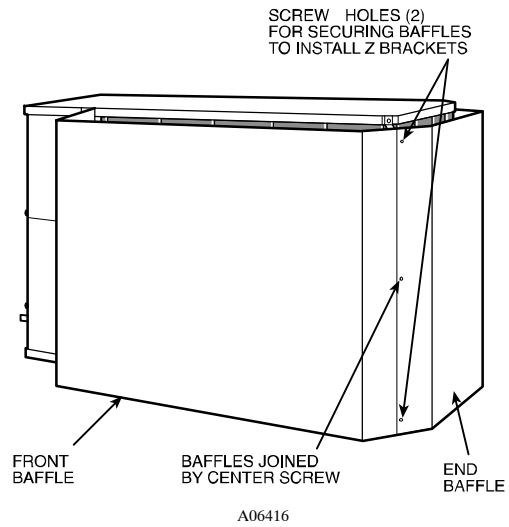

Fig. 2 – Installing End and Front Baffles
1. Using the screws provided in kit, join the 2 baffles at their center holes. See Fig. 2. Tighten screws securely.